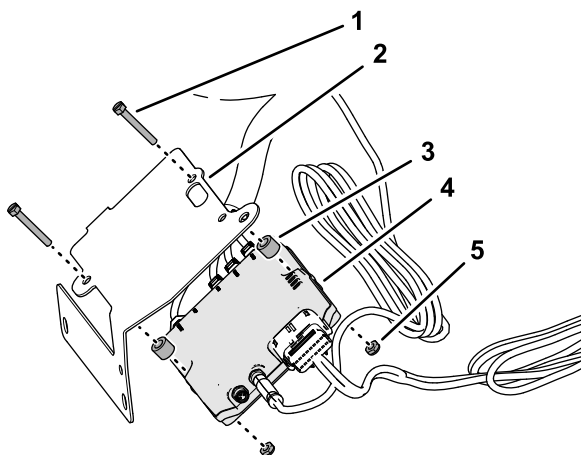

Figure 88
4. Assemble the modem bracket to the CL-55 modem with 2 slotted machine screws (#10-24 x 1-1/2 inches), 2 spacers (1/4 x 3/4 inch), and 2 locknuts (#10-24) as shown in Figure 88.